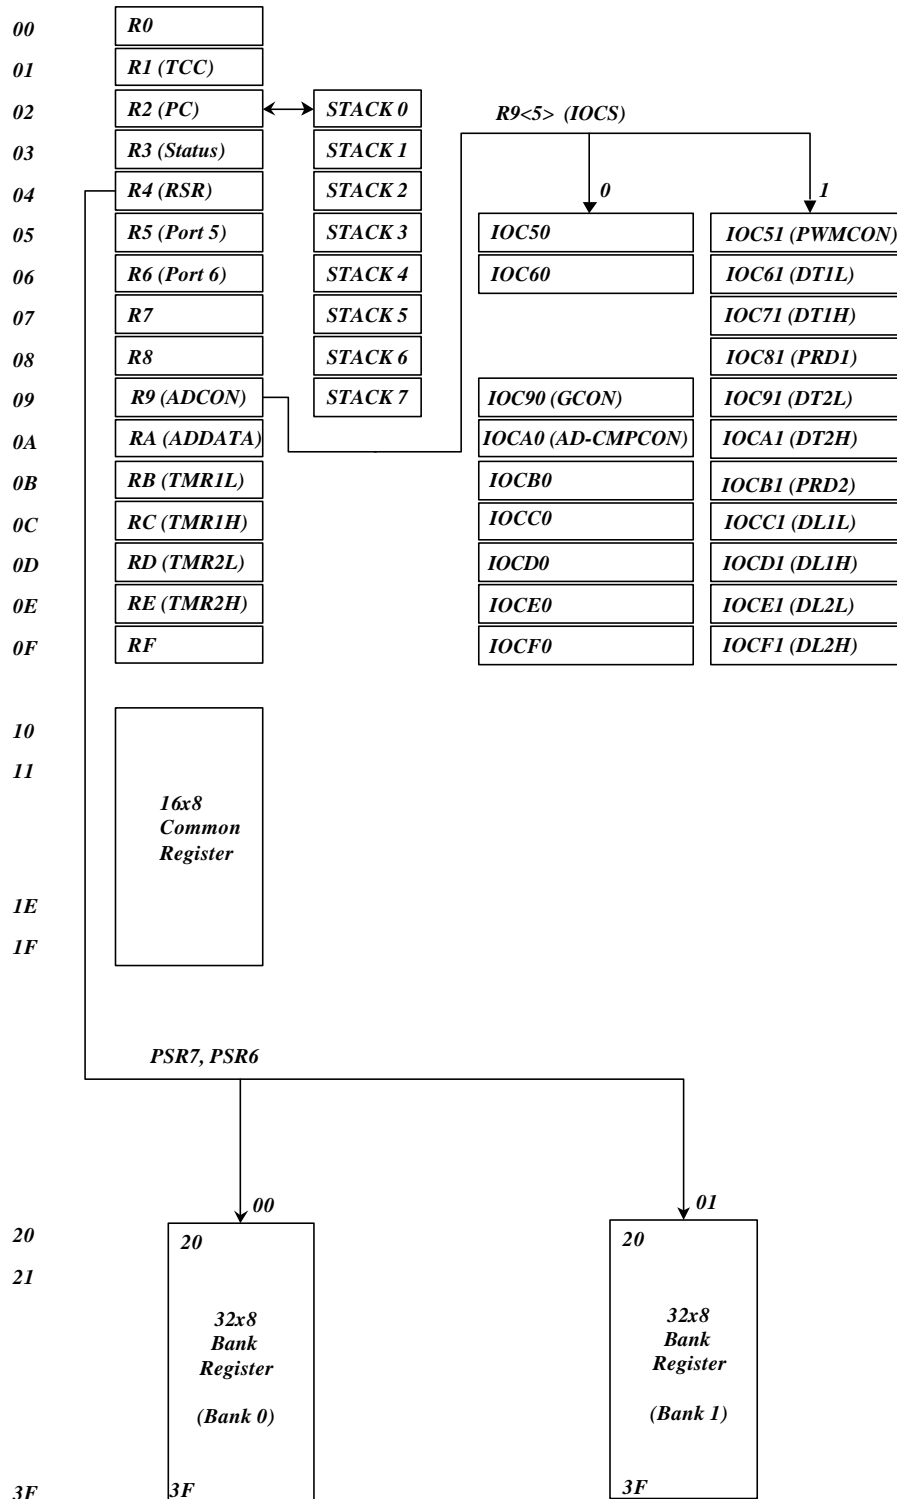

Fig. 4 Data Memory Configuration
- R2 and hardware stacks are 12-bit wide. The structure is depicted in Fig. 4.
- **Bit 4 (T)** Time-out bit. Set to 1 by the "SLEP" and "WDTC" commands, or during Power on and reset to 0 by WDT time-out.
- **Bit 3 (P)** Power-down bit. Set to 1 during power-on or by a "WDTC" command and reset to 0 by a "SLEP" command.
- **Bit 2 (Z)** Zero flag. Set to "1" if the result of an arithmetic or logic operation is zero.
- **Bit 1 (DC)** Auxiliary carry flag
- **Bit 0 (C)** Carry flag
- See the configuration of the data memory in Fig. 4.